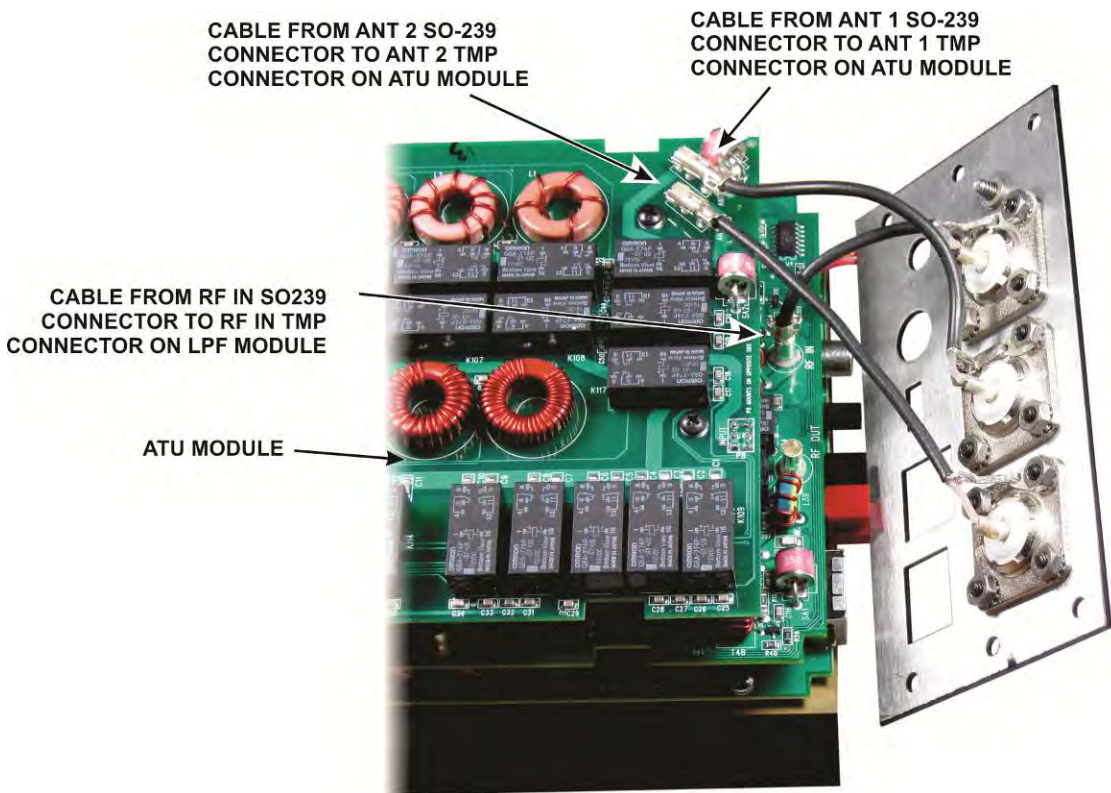
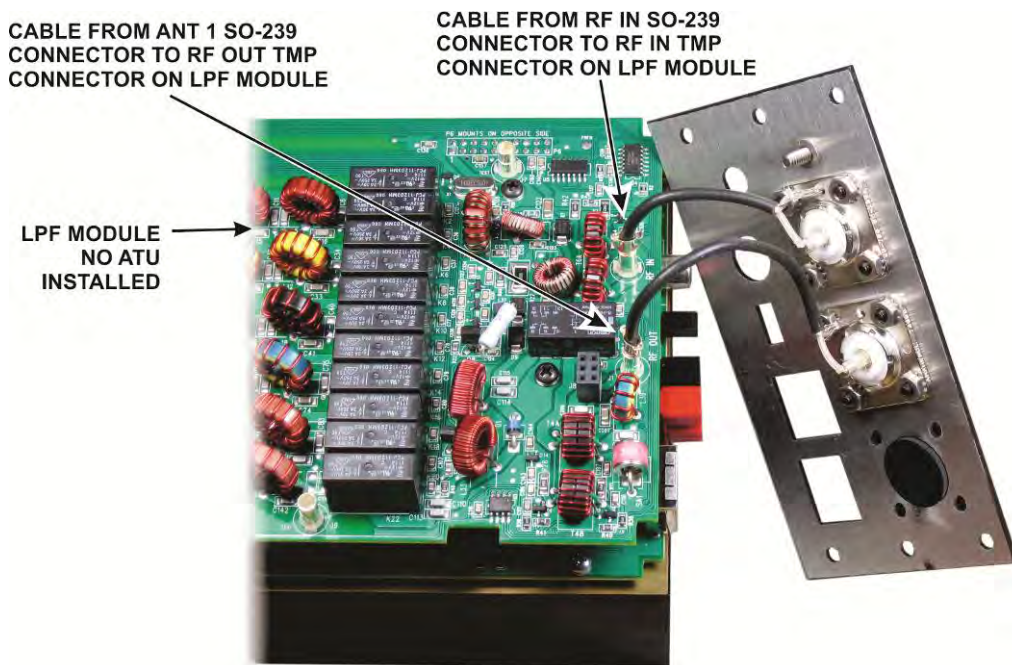

Figure 20. Rear Panel RF Cable Connections with ATU.
Figure 21. Rear Panel RF Cable Connections with No ATU.
⚠ If you removed the bottom cover, be sure you have not dislodged any of the TMP connectors on the coaxial cables that attach to the pc boards in the KXPA100 (see *Figure 20. Rear Panel RF Cable Connections with ATU.* on page 48 or *Figure 21. Rear Panel RF Cable Connections with No ATU.* on page 49).
- If you have the KXAT100 ATU installed, see Figure 20.
- If you do not have the KXAT100 ATU installed, see Figure 21.